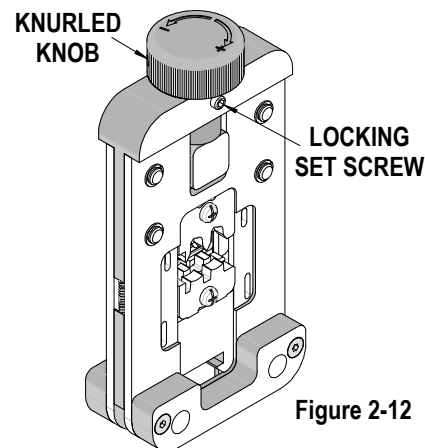

Figure 2-12
1. Loosen the locking set screw located just below the knurled knob at the top of the Power Crimp Head. See Figure 2-12.